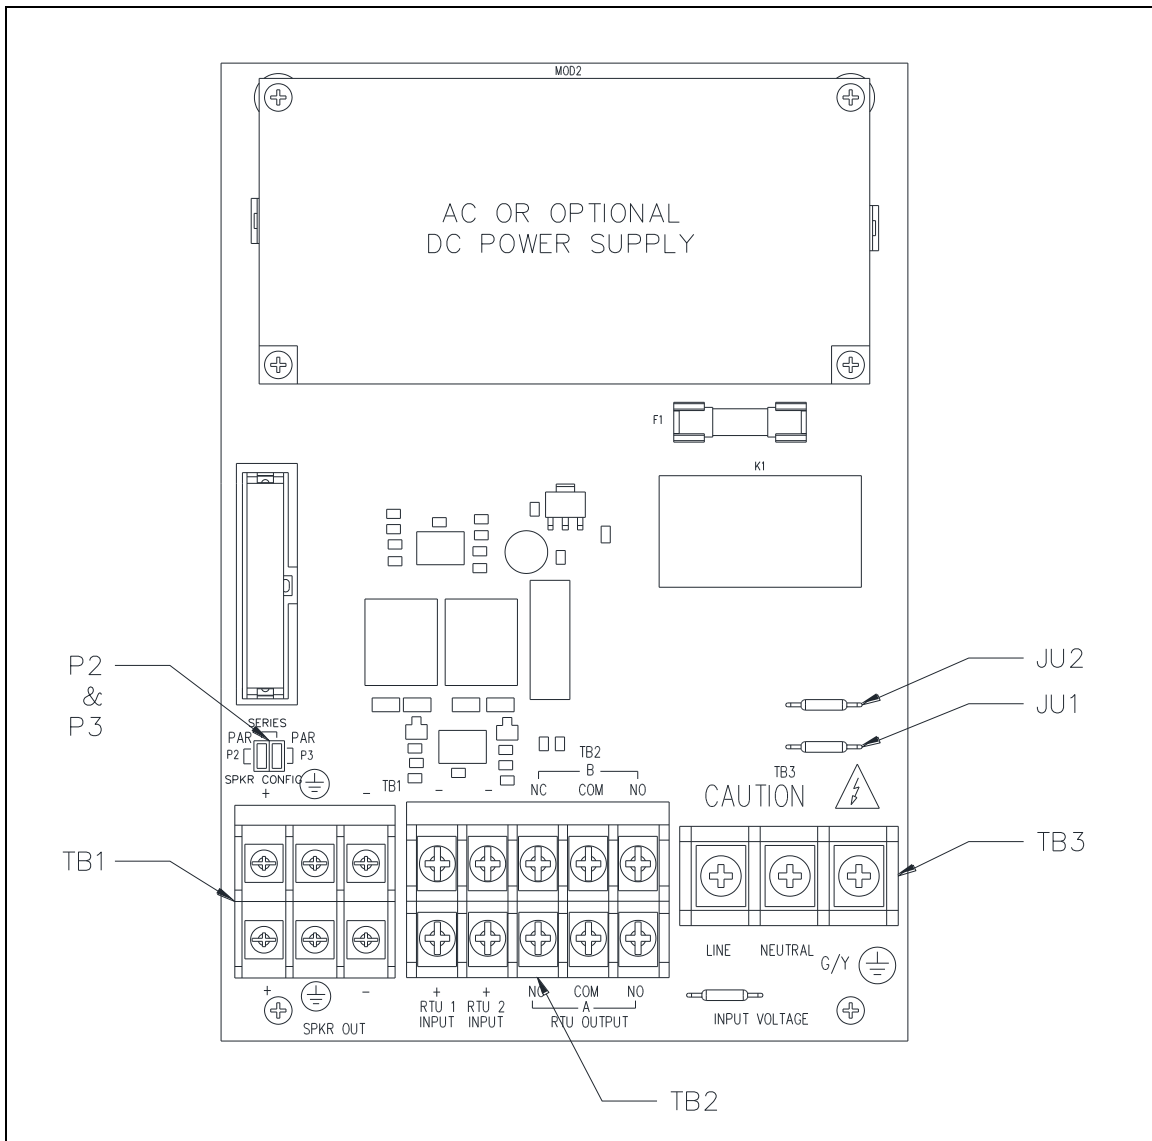
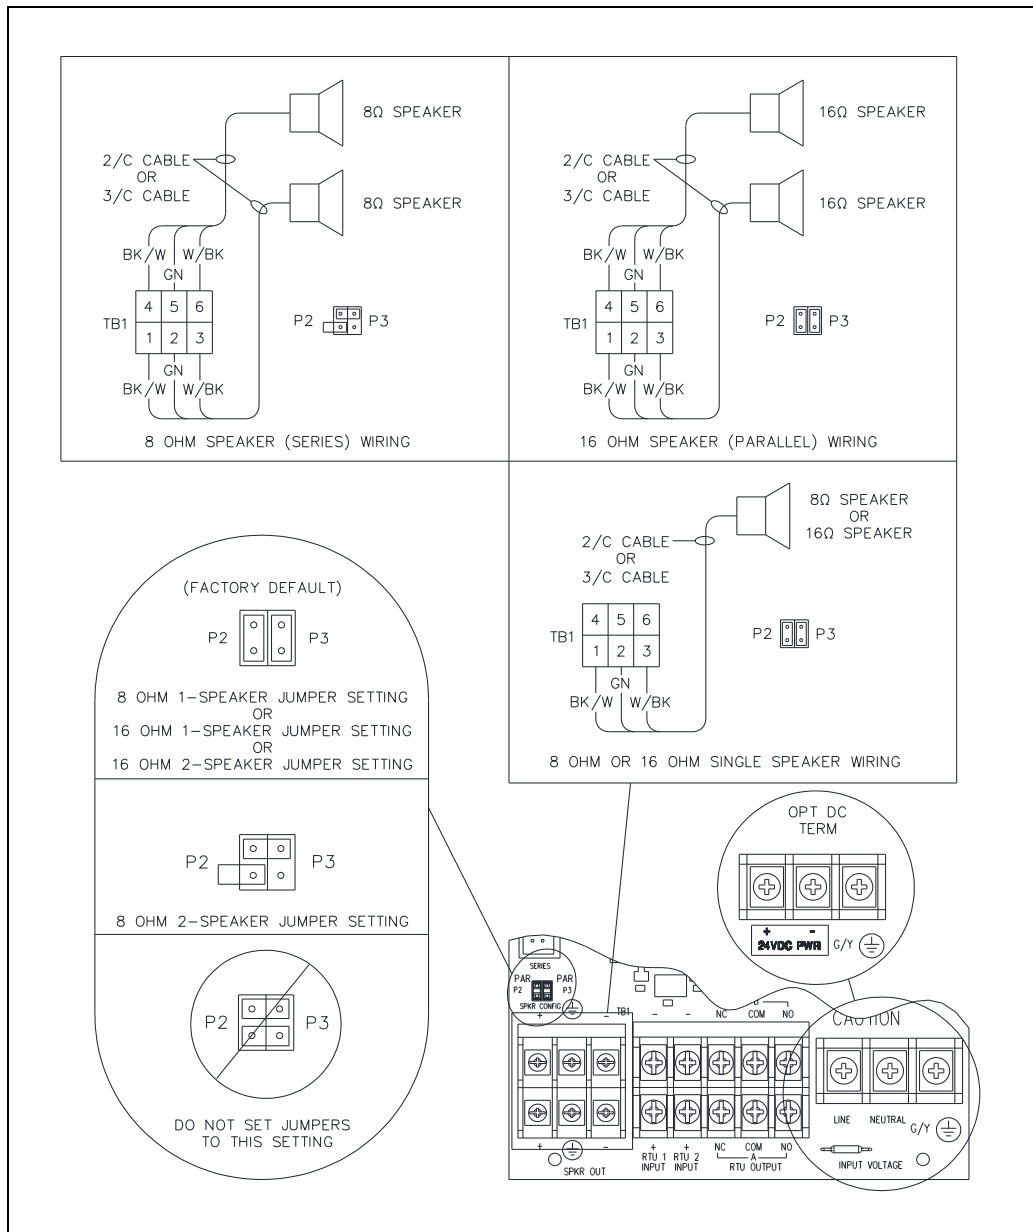
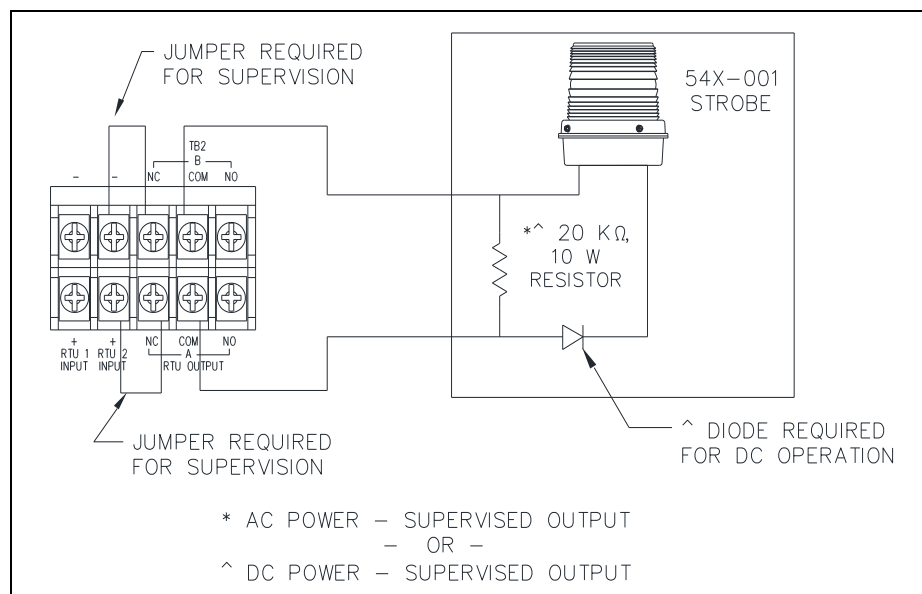

Figure 4. SP2 Standard Termination PCBA
Figure 5. 8/16-ohm Speaker Impedance Configuration and AC/DC Termination at TB3
Figure 8. Supervised Output Wiring—TB2
5. Configure the speaker jumpers, P2 and P3, for the appropriate impedance for use with 8-ohm or 16-ohm speakers (see Figure 4 and Figure 5).
The standard termination PCBA contains two auxiliary RTU inputs. The optional 70V/100V termination board provides speaker line monitoring and has just one auxiliary RTU input. Terminate the inputs at terminal block TB2 (see Figure 4).
A single output relay provides two form C contacts to power a beacon (see Figure 8). Terminate the output at terminal block TB2 (see Figure 4). Remove jumpers JU1 and JU2 to configure the output for dry contact use.
5. Install a 20-kilohm 10-watt resistor across the terminals of the beacon cable (see Figure 8).
6. Install jumpers at TB2 (see Figure 8) to enable cable monitoring.
The ac or optional dc power supply is on the termination PCBA. Connect the local ac or dc power source to terminal block TB3 (see Figure 4):